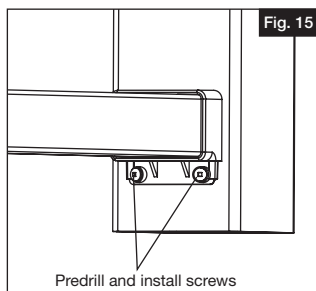

Fig. 15
- Install the #10 x $1\frac{1}{4}$ " square drive screws (Fig. 15).